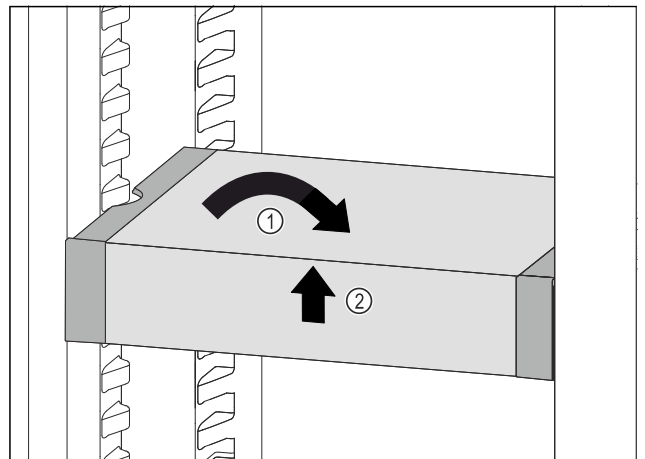

Fig. 95
- ▶ Set VarioSafe straight. Fig. 95 (1)
- ▶ Lift VarioSafe at the front. Fig. 95 (2)